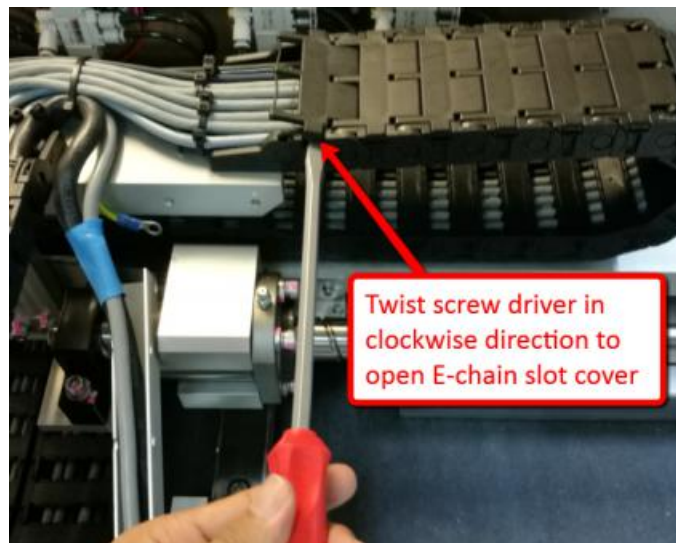

Figure 13
15. Use flat head screw driver to open first X-Axis E-chain slot cover as shown in Figure 13.